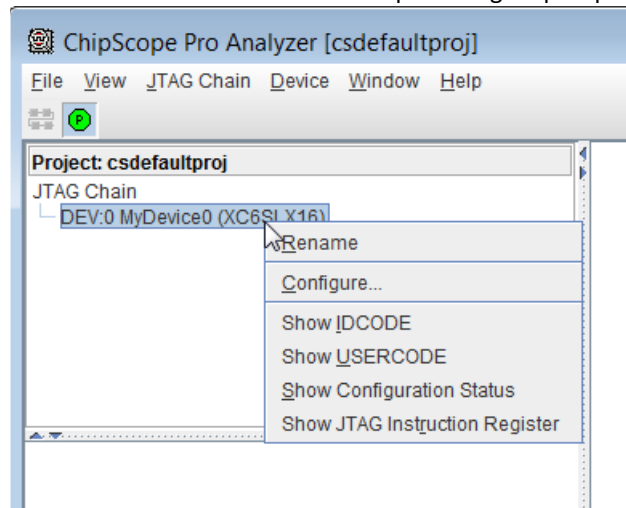

Figure 7: Configuring the Device
6. Figure 7: JTAG Chain Connection DataConfigure the device.